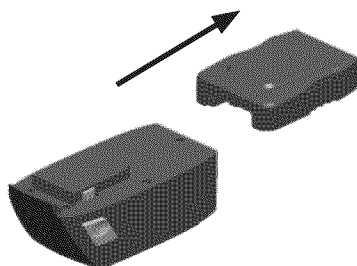

Figure 3 - Remove Charger
4. Unplug charger. Remove the charger by sliding off (see Figure 3).